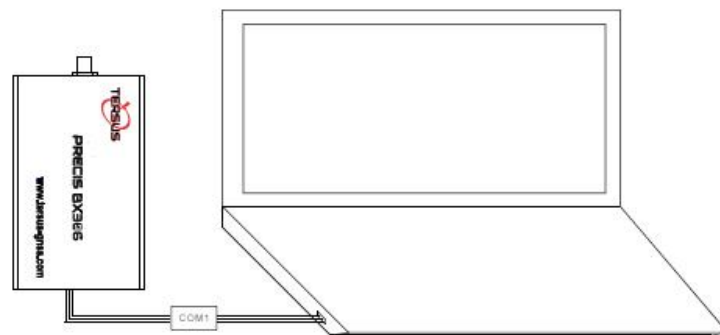
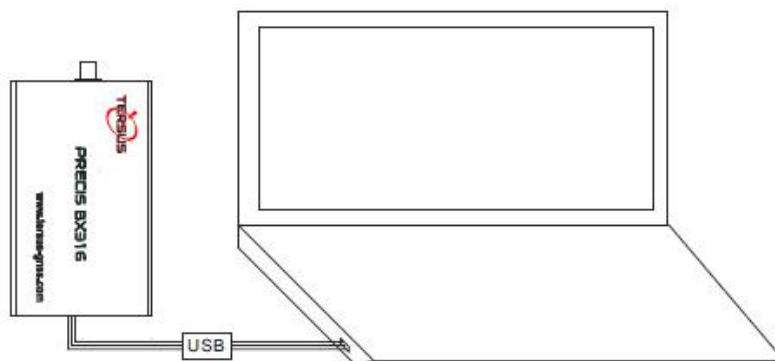

Figure 5.1 Download Files from eMMC Card with a Serial Port
Figure 5.2 Download Files from eMMC Card with an USB Port
- 1) Refer to Figure 5.1 and Figure 5.2 to create connection between a BX306/BX316 receiver and a computer;